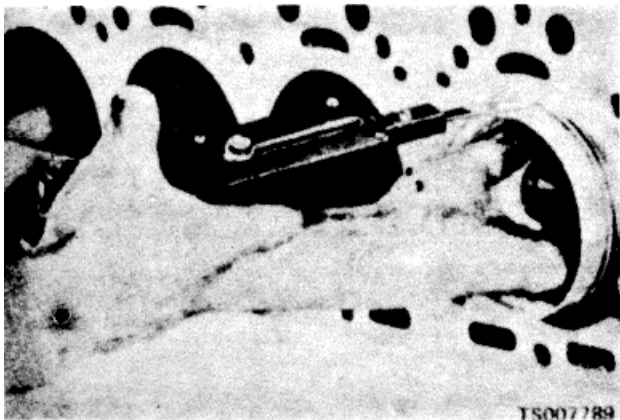

Figure 9-25. Checking Piston Fit in Cylinder Bore.
a. Check piston fit in the cylinder bore (fig. 9-25) using a piece of 0.0015-inch feeler stock cut 1/2 inch wide. Dress the edges of the feeler stock with a stone to remove burrs and feathered edges. The block and pistons must be at room temperature when piston fit is tested. Position the feeler stock midway between the piston pin bosses. With the piston inserted about 2 inches into the block, the feeler stock must pull from the block with 5 to 10 pounds pull. If the feeler stock does not offer enough resistance, perform the same test with a new standard size piston. If sufficient resistance is still not obtained, rebore the cylinders (para 9-41) and install oversize pistons.